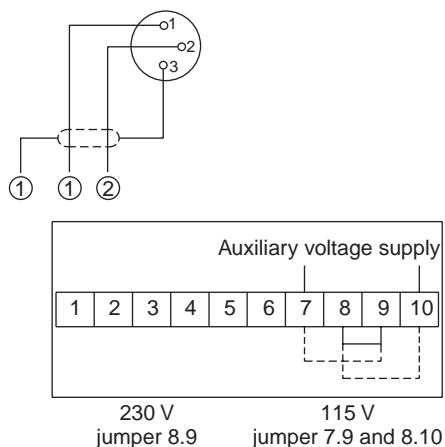
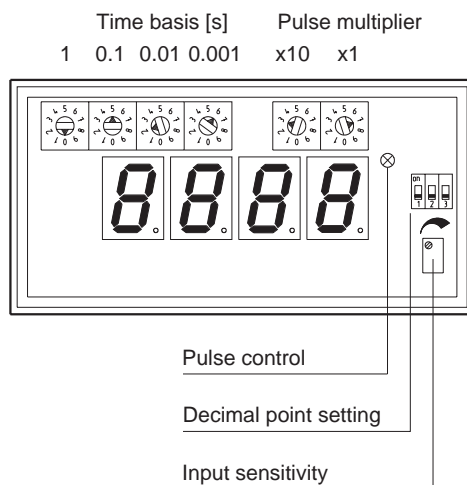

Figure 12: Connecting the DA digital remote speed display
Figure 13: Adjusting the DA digital remote speed display
The DA digital remote speed display is connected to the IG voltage pulse encoder (Figure 12 and Figure 13):
1. Connect the device (Figure 12)
3. Set measuring interval (Figure 13 and Section "DA calculation examples" on page 18)
4. Adjust input sensitivity (Figure 13):